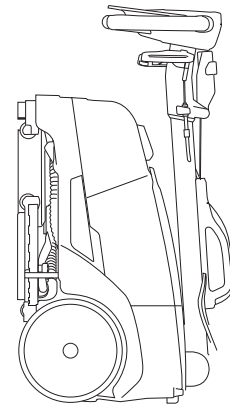

Fig.4
- Draai de machine in verticale positie (Fig.4).